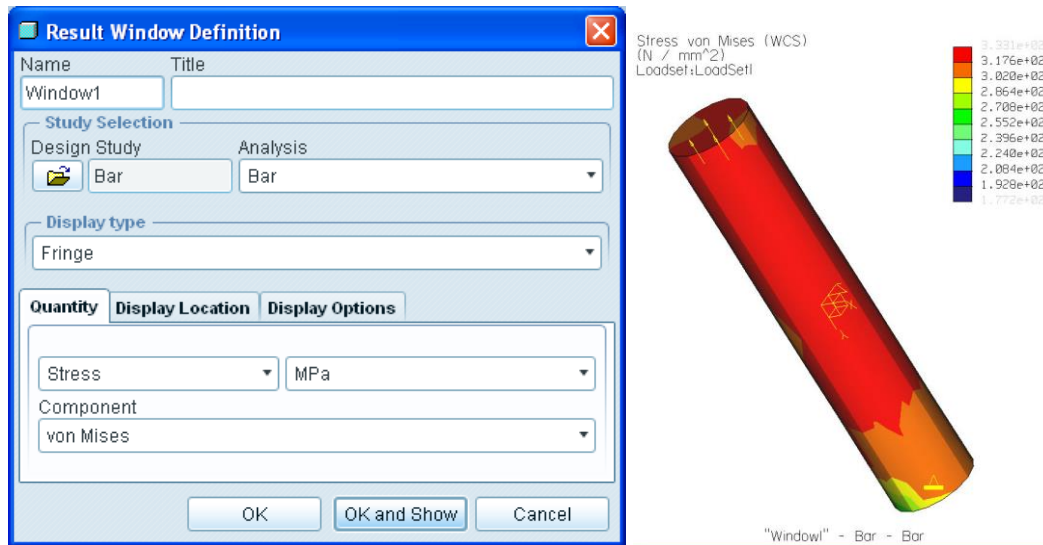

Figure 9 – Results Definition
- Choose **Windows Definition > New** or the  icon. Make sure all the options are the same as in Figure 9 then click **OK and Show**.
- What else can we show? Choose **Windows Definition > Edit**  to bring back the dialog in Figure 9. Below Quantity change Stress to **Displacement** then **OK and Show**. Again a colored plot appears with the colors relating to the amount of displacement. One end is blue with a displacement of 0 because it was constrained. The other end has stretched as the load is applied so this is shown in red with a displacement value of 0,15 mm.
- We can combine the display of displacement with stress in a very interesting and informative way. Choose **Windows Definition > Edit** to bring back the dialog in Figure 9. Below Quantity change Displacement back to **Stress** then on the Display Options tab tick **Deformed** and **Transparent Overlay**. **OK and Show** should now show the Von Mises stress plot on the stretched model. Close the results window with **File > Close** then **Don't Save**.